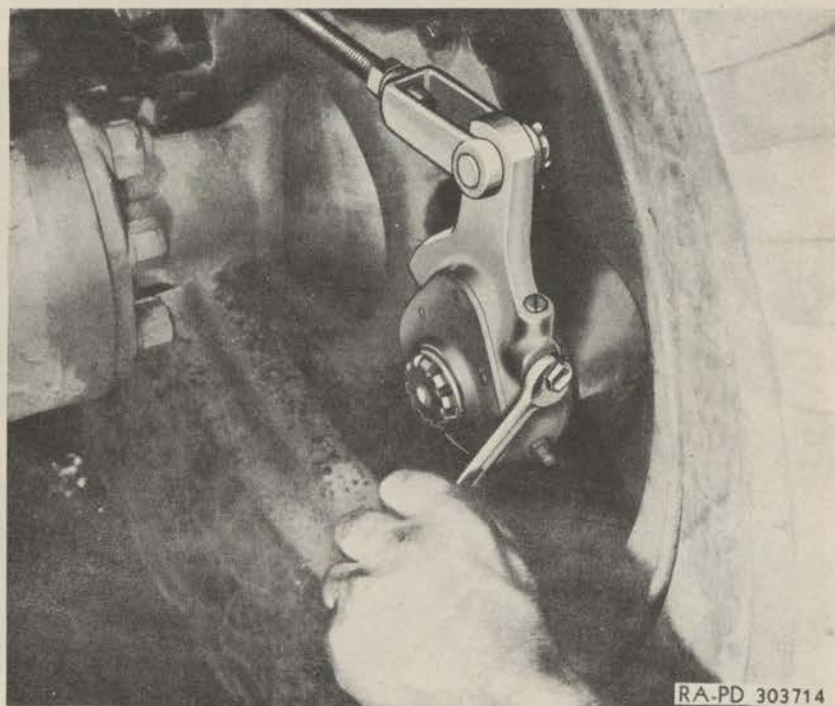

Figure 117—Adjusting Slack Adjuster
(3) **ADJUST SLACK ADJUSTER.** Tighten the slack adjuster adjusting worm until the brake shoes are standing tight against the brake drum. Then back off the worm until the wheel is free to turn (fig. 117). Check the adjustment with the feeler gage inserted through the inspection hole in the brake drum to see that there is 0.010-inch to 0.015-inch clearance at the toe of each brake shoe (fig. 118).